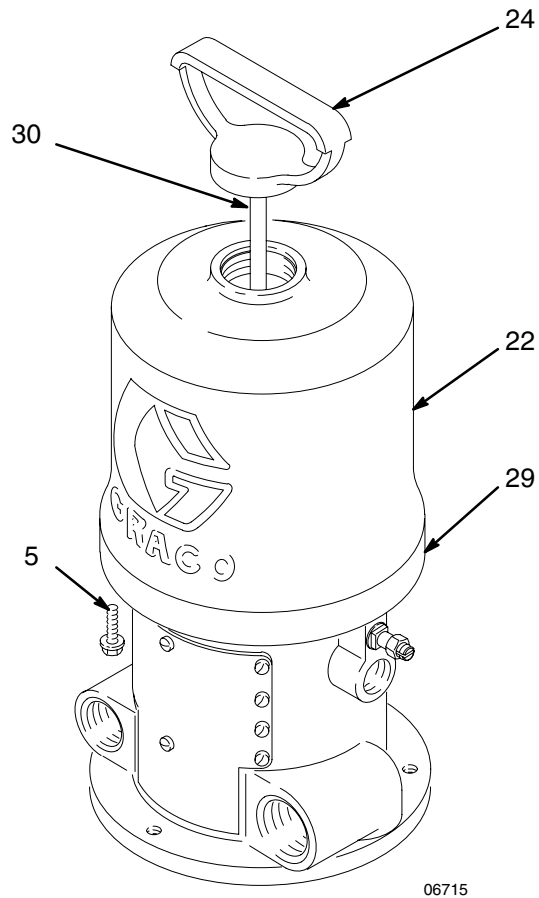

Fig. 2
To reseal the air transfer valves and restart a stalled motor, relieve the air supply pressure to the motor by closing the bleed-type master air valve. If the air transfer valves fail to reseal, screw the cap nut (24) out of the cylinder (22), pull up on the trip rod (30) and screw the cap nut back into the cylinder. See Fig. 2. Be sure the air supply pressure is less than 180 psi (12 bar, 1.2 MPa) before opening the bleed-type master air valve.
Manually push on the piston rod to move the piston to the top of its stroke. Screw the cap nut (24) out of the cylinder (22). Pull up on the cap nut, grip the trip rod (30) with padded pliers (F) and screw the cap nut off of the trip rod. See Fig. 2.
Remove the six screws (5) holding the cylinder (23) to the base (29) and carefully pull the cylinder straight up off of the piston. See Fig. 2.